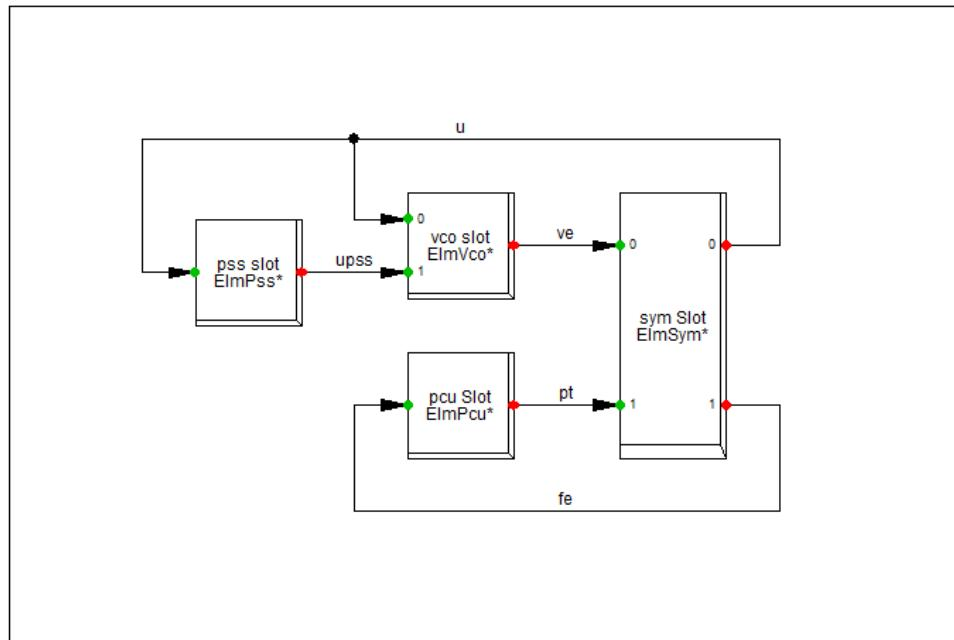

Figure 30.1.3: Composite Frame “Frame\_Generator”
- The schematic diagram in Figure 30.1.3 shows a **Composite Frame** (*BlkDef*) which has one slot for a synchronous machine, one for a primary controller unit (pcu slot), and one for a voltage controller (vco slot). The composite model, which uses this composite frame, shows a list of the available slots and the name of the slot. Now the specific synchronous generator, voltage controller or primary controller unit model can be inserted into these slots.